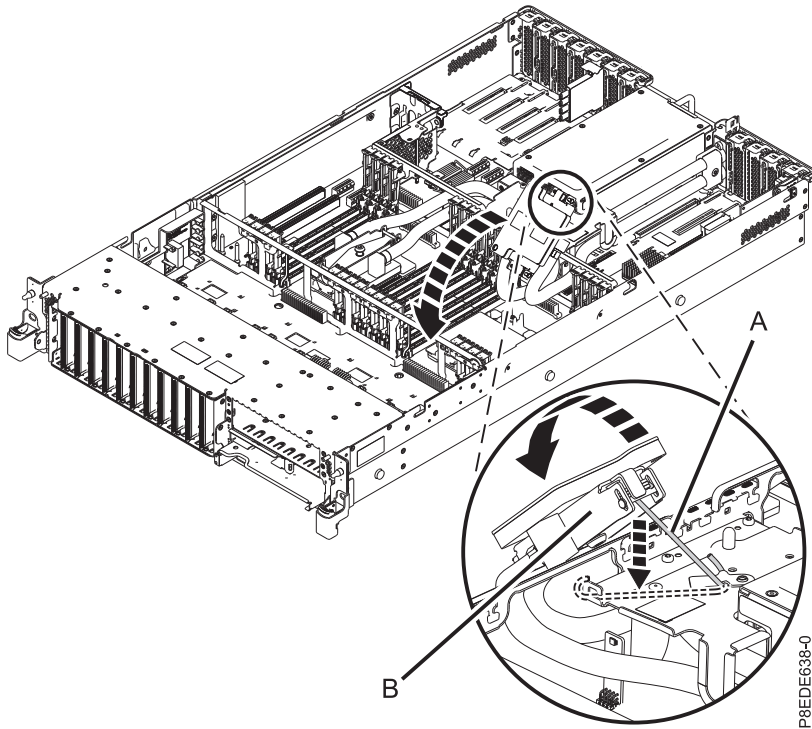

Figure 41. Aligning the cold plate on the system processor module
- a. Unhook the cold plate (**B**) from the service hook (**A**) and carefully align the cold plate onto the system processor module, as shown in Figure 41 on page 40.